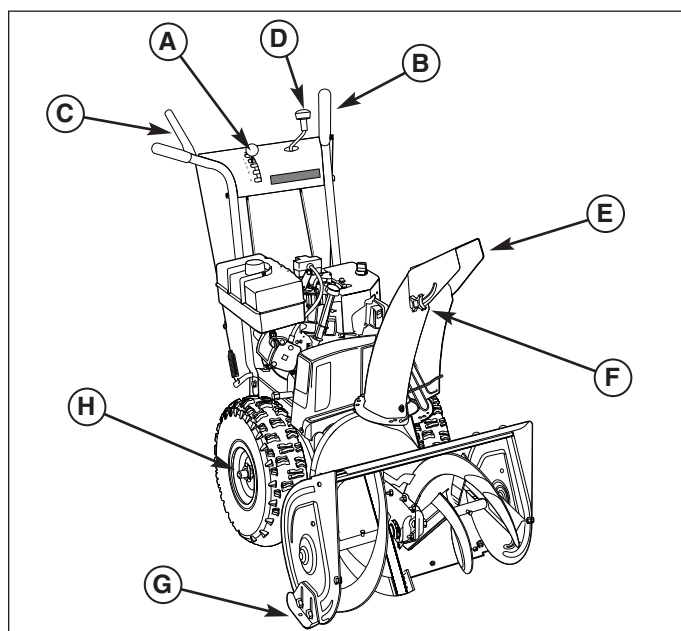

Figure 4. Snowthrower Controls
The traction drive to each wheel can be locked and unlocked with the Traction Lock Pins (H, Figure 4) to permit the unit to “free-wheel,” allowing easier manual handling and transport of the snowthrower.
E. Chute Deflector - Controls the distance snow is thrown. Tilting the chute deflector (E, Figure 4) UP provides a higher stream and greater distance, while tilting the deflector DOWN provides a lower stream and less distance.
F. Chute Deflector Knob - This knob (F, Figure 4) allows the discharge chute deflector (E) to be locked in the desired tilt position.
G. Scraper Bar Height Control - The skid shoes (G, Figure 4) control the height the scraper bar (located at the bottom of the auger housing). The scraper bar allows smooth surfaces (such as concrete or asphalt driveways) to be scraped clean of snow. On surfaces such as gravel, the scraper bar should be adjusted higher — so that it will not pick up gravel or debris.
H. Traction Lock Pins - The traction drive to each wheel can be locked and unlocked with the traction lock pins (H, Figure 4) to permit the unit to "free-wheel," allowing easier manual handling and transport of the snowthrower.